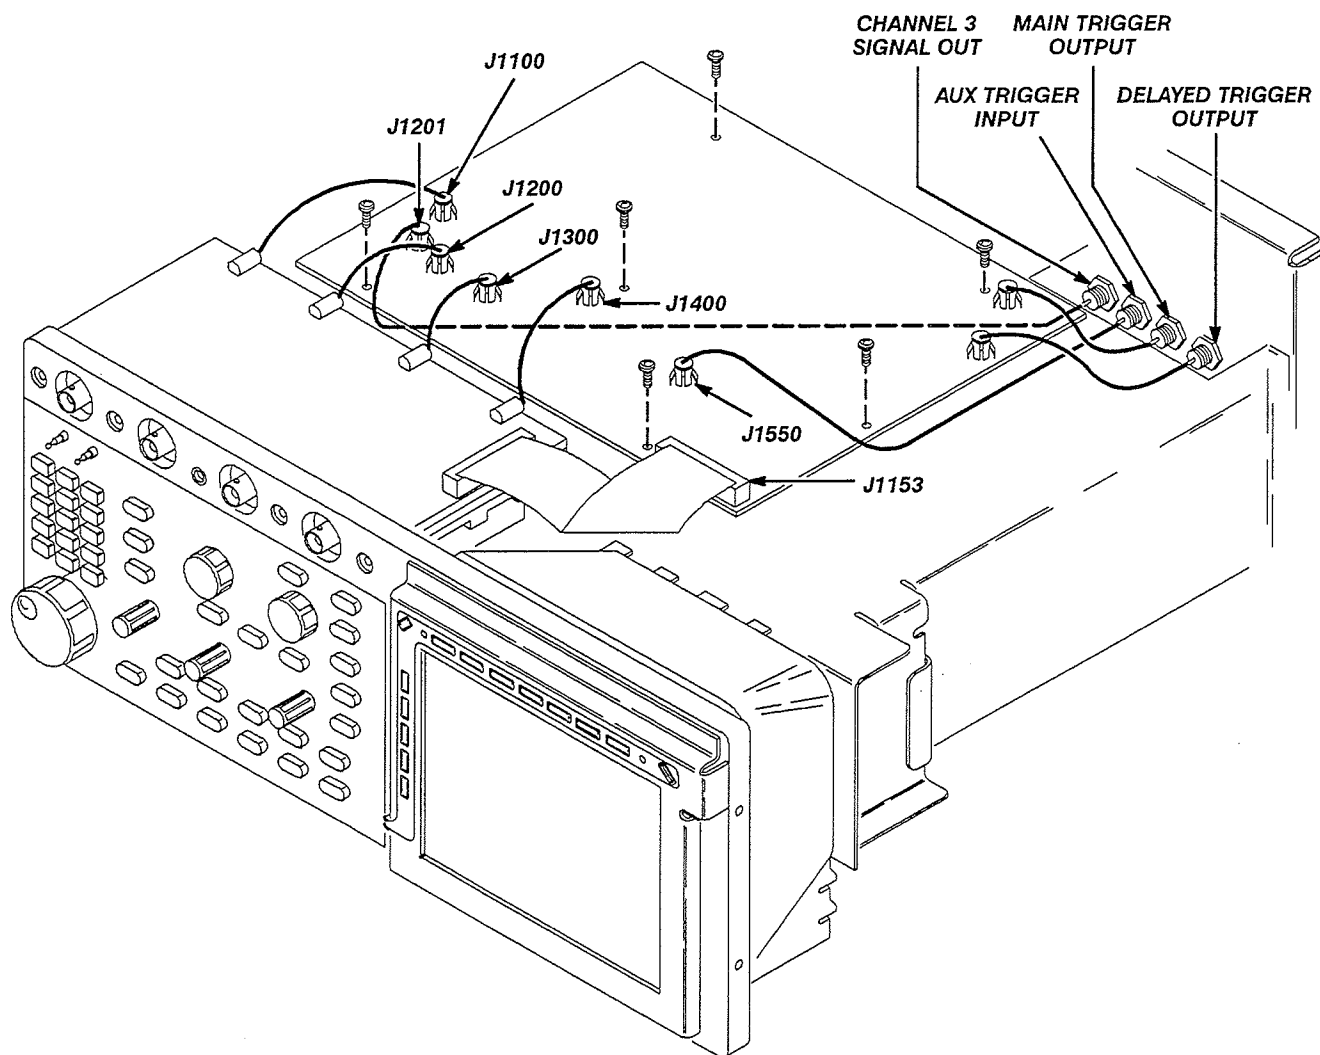

Figure 6-15: A10 Acquisition Board Removal
3. *Remove the Acquisition Board:* Use Figure 6-15 as a guide.